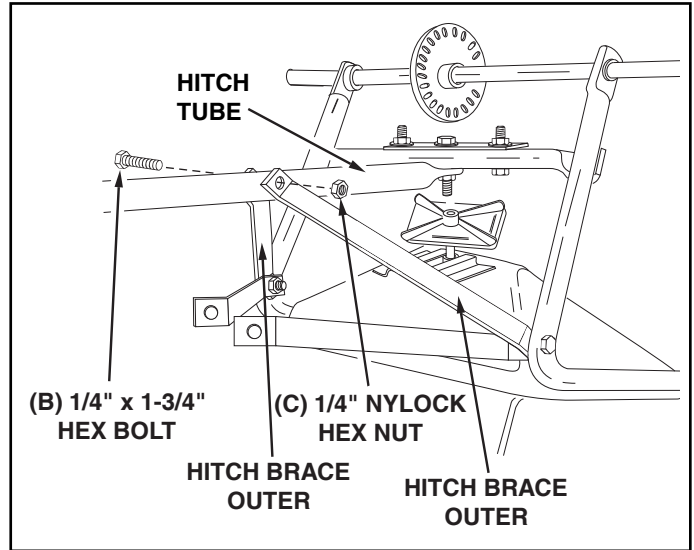

FIGURE 2
4. Assemble the two **OUTER** hitch braces to the hitch tube using a 1/4" x 1-3/4" (B) hex bolt and a 1/4" nylock hex nut (C). **DO NOT TIGHTEN YET.** Do not assemble the inner hitch braces at this time. See figure 2.